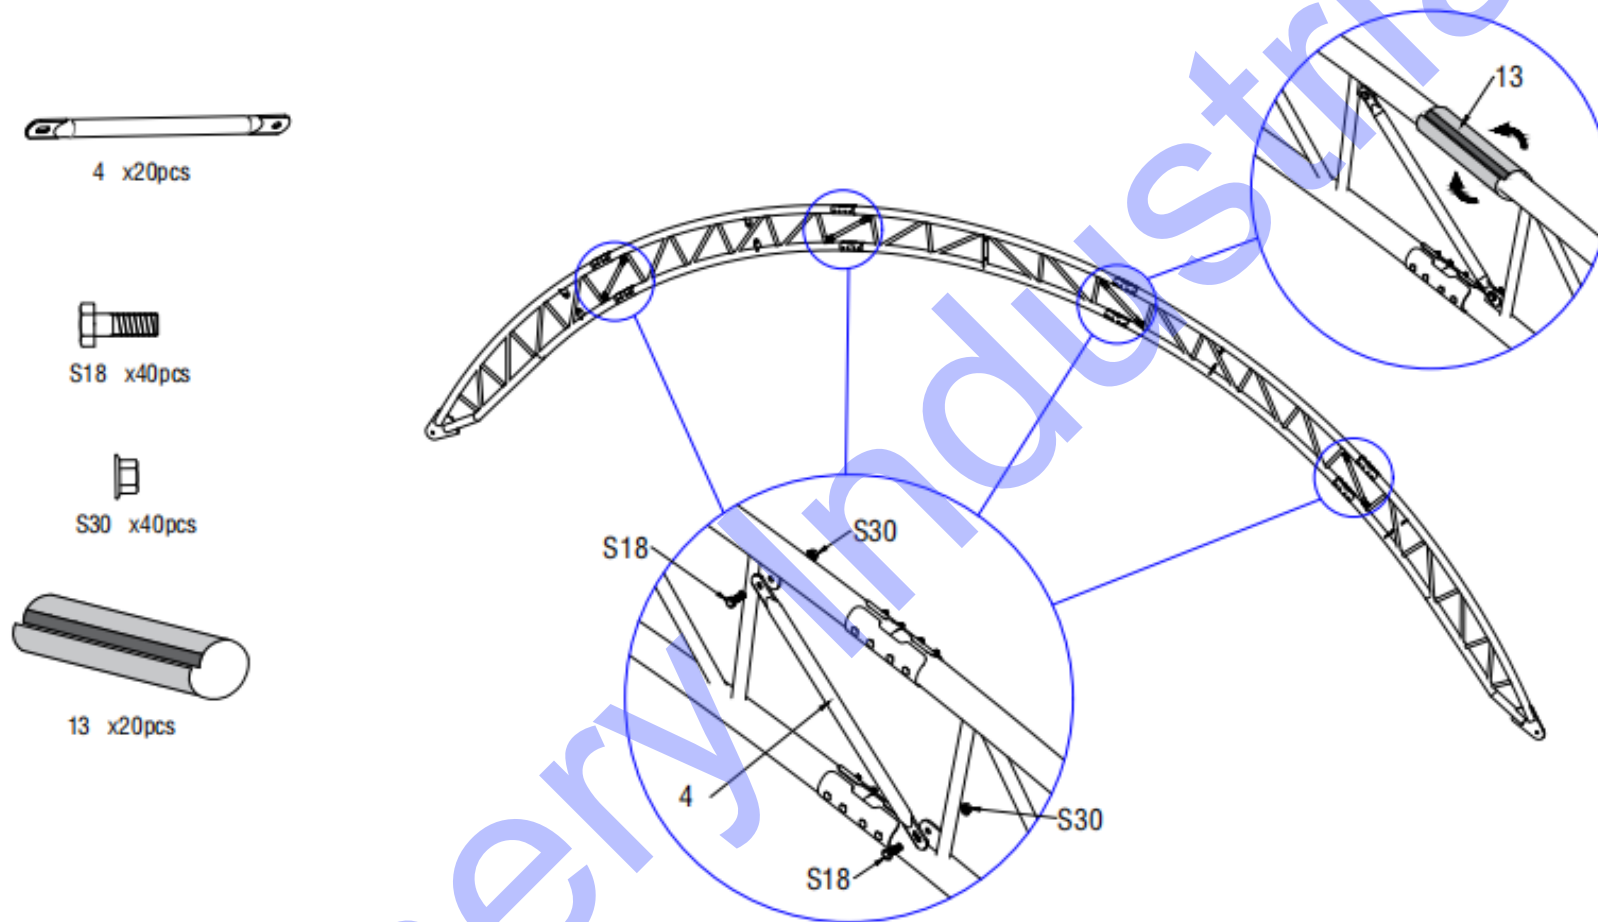

Figure 3
2.2 As Figure 3 shows,install the Supporting Webbing between the arch(No.4)by using Bolt M10x30mm(No.S18).Then put the PVC protective cover on the outer of connection of the arch to protect the roof cover from scratched by the outer joint.